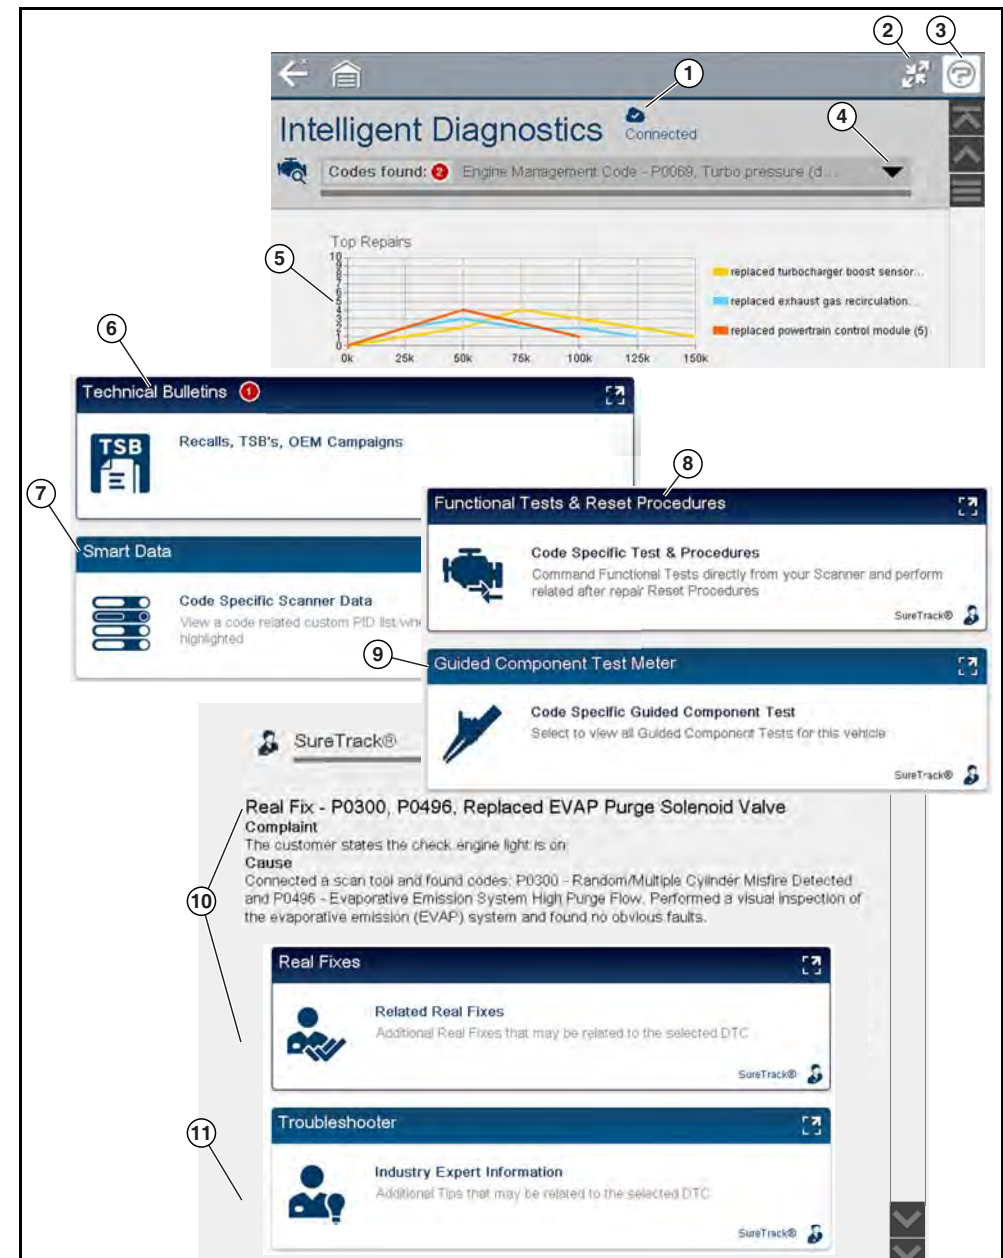

Figure 7-4 Multi-card menu
The following descriptions are used with Figure 7-4.
- Wi-Fi Connection Status Indicator** - A Wi-Fi connection indicator (cloud icon) is provided on the top of the screen (Figure 7-4). This icon is also used to indicate service expiration, the icon changes color to red, and displays the word "Expired" in the event your access has expired.